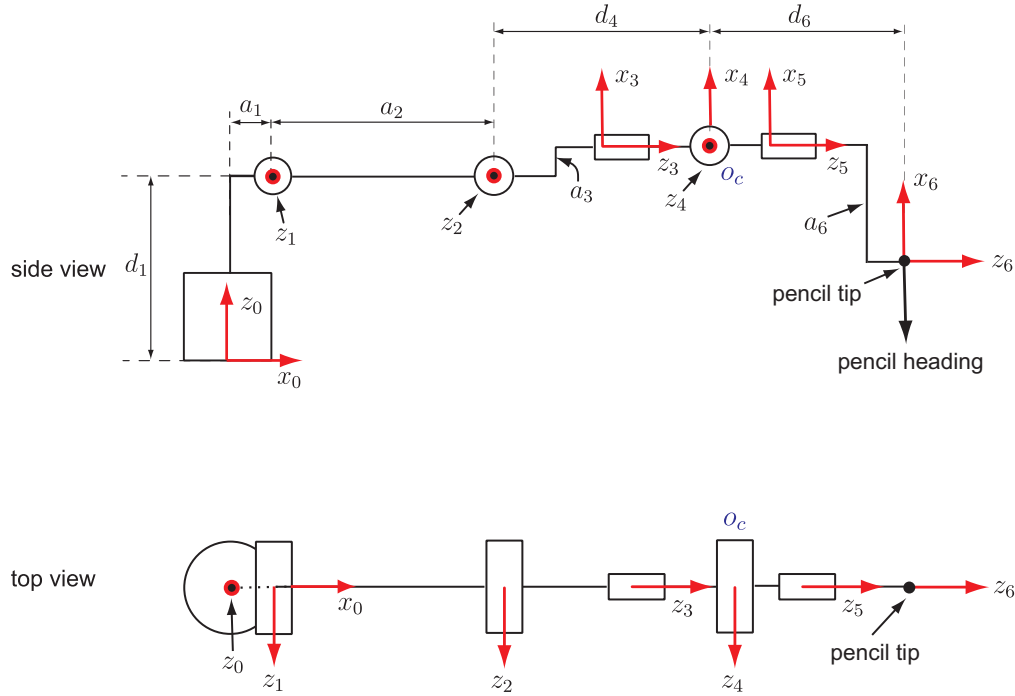

Figure 2: Schematic diagrams illustrating the KUKA kinematic parameters
The kinematic parameters of the robot are detailed in Figure 2. The red elements in the figure are the joint axes. The values of various parameters are found in the table below.
- The position of the wrist centre  $o_c$  is shown in Figure 2. First find  $(\theta_1, \theta_2, \theta_3)$  such that  $o_c^0(\theta_1, \theta_2, \theta_3) =$